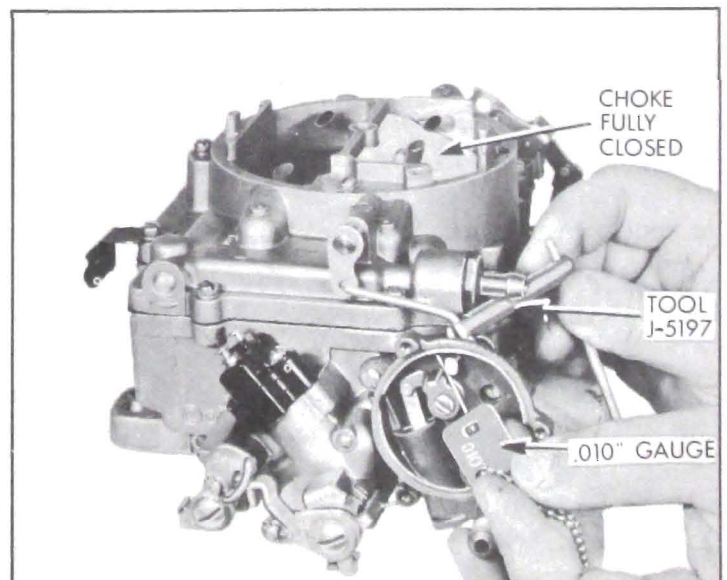

Figure 3-53—Choke Piston Adjustment
18. *Adjust Choke Piston.* With choke valve tightly closed, check clearance between choke piston lever and stop in housing using .010" Gauge. To adjust, place Tool J-5197 on lower section of rod and bend as required. See figure 3-53.